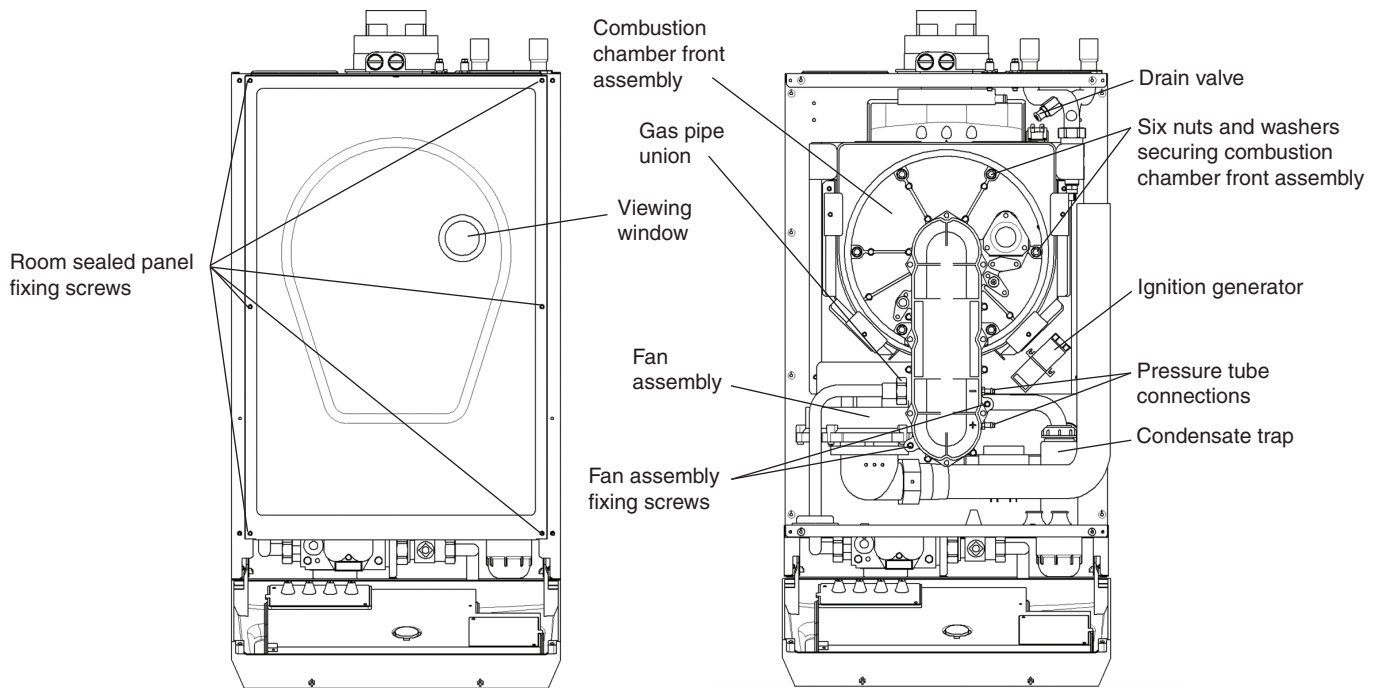

Fig. 7.1
7.2 PREPARE FOR SERVICING - Fig. 7.1
8.1 GENERAL ACCESS - Fig. 7.1
2. Gain access as described in Section 8.1. Connect a hose to the drain valve located in the flow pipe just above the heat exchanger (see Fig. 7.1) and route it to a suitable container. Open the drain valve.